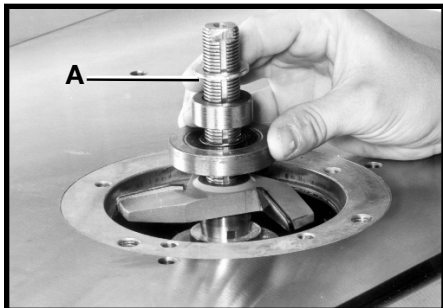

Fig. 20
1. Place one of the 3/4" I.D. washers (A) on the spindle (Fig.20).